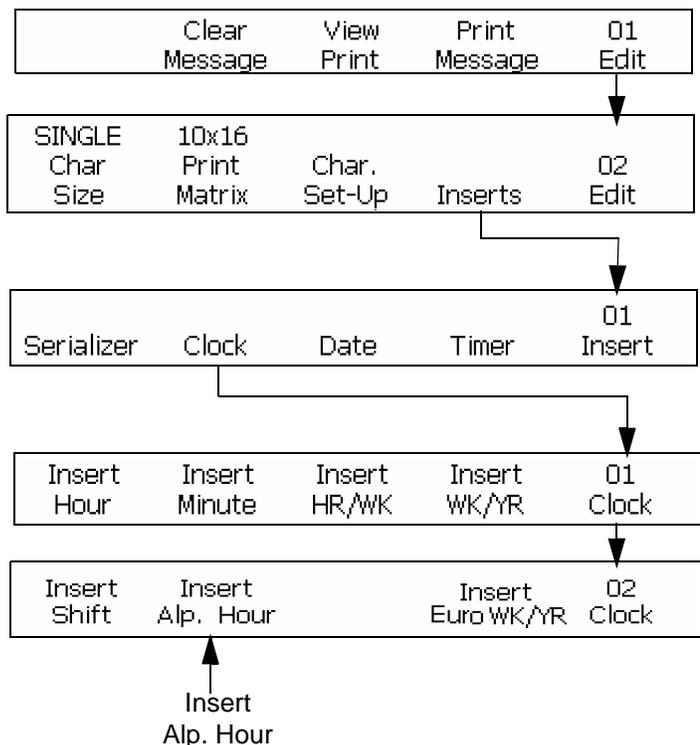

Figure 6-23: Accessing Frame <02 Clock>
- 1 Begin in the Frame <02 Clock>. Refer to Figure 6-23 on page 6-29.